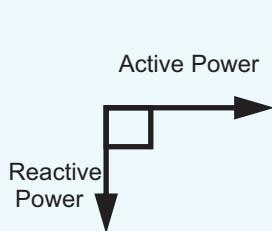
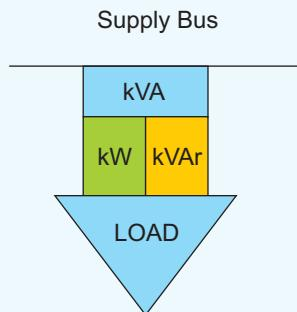

Figure 1:
Figure 2:
A vast majority of electrical loads in low voltage industrial installations are inductive in nature. Typical examples are motors, transformers, drives & fluorescent lighting. Such loads consume both active and reactive power. The active power is used by the load to meet its real output requirements whereas reactive power is used by the load to meet its magnetic field requirements. The reactive power (inductive) is always 90° lagging with respect to active power as shown in figure 1. Figure 2 & 3 show the flow of kW, kVAr and kVA in a network.
- Higher kVA demand from supply system as given in figure 2